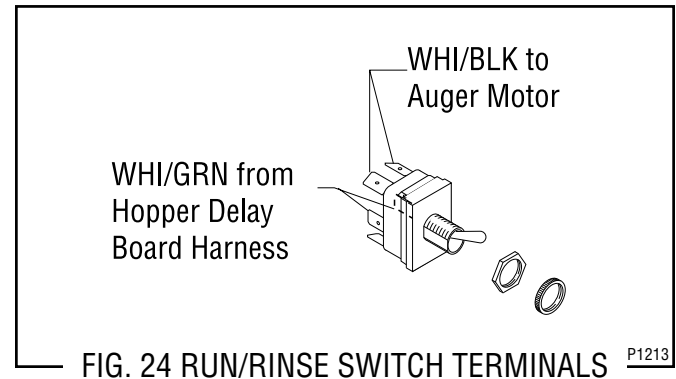

FIG. 24 RUN/RINSE SWITCH TERMINALS
5. Referring to the illustration below (Fig. 24) reconnect the wires to the new switch.